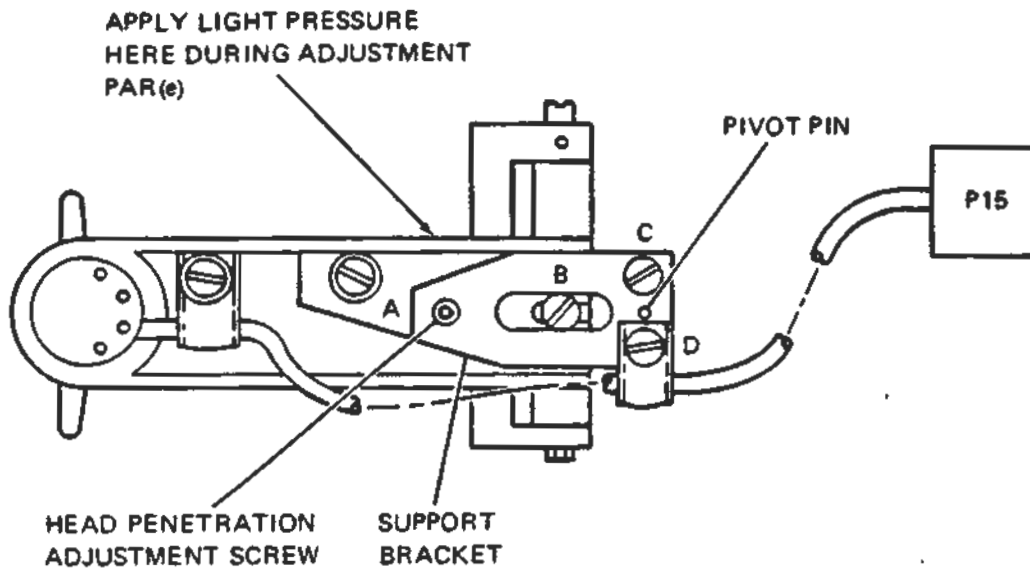

Figure 6-12 Positioner Track and Azimuth Adjustment (Side 1)
- e. Slacken screws A & B (Figure 6-12) holding head Side 1 carriage to support bracket.
- n. When the time intervals are within 20  $\mu$ sec, tighten two screws C and D. (Figure 6-12)